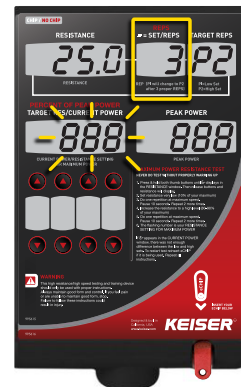

Figure 11. Maximum Power Display
6. The flashing number is your RESISTANCE SETTING FOR MAXIMUM POWER (see Figure 11).